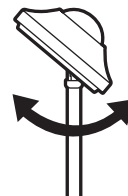

Fig. 6
4. To tilt lamp head toward you or away from you – simply move head to desired position (Fig. 6).